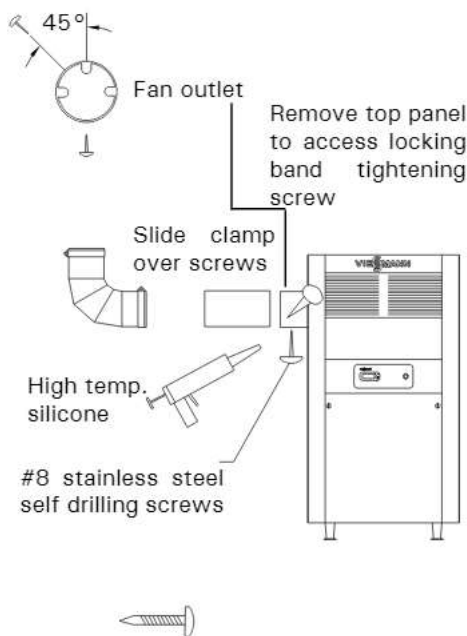

Fig. 7
The AL-29-4C stainless steel venting system is completely sealed when fully assembled. Locking bands are used to reinforce the joints between pipe and fittings. Every fitting requires an application of high temperature silicone (see Fig. 7).
- Do not use screws to secure the vent pipe except at the boiler fan adaptor connection (see Fig. 7).
The connection to the boiler is made with a short length (e.g. 8 1/2") of pipe (male end on each side). Apply a bead of silicone to the fan adaptor and screw the short length of pipe to the fan adaptor with the #8 self-drilling stainless screws provided (see Fig. 7).
Use figures (Figs. 7 - 8) to install the venting system together with the Z-Flex Model SVE, Series II Installation Instructions.